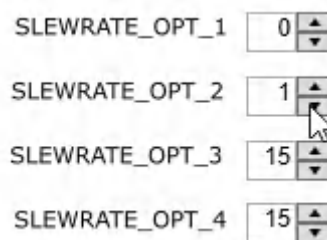

Figure 4-4. SLEWRATE_OPT# Assignment Example in TICS Pro
- a. For example, if you wanted the fastest, second fastest, and the slowest slew rate, assign 0x0, 0x1, and 0xF to registers SLEWRATE_OPT#. SLEWRATE_OPT1 = 0x0 (fastest), SLEWRATE_OPT2 = 0x1 (second fastest), and SLEWRATE_OPT3 = 0xF (slowest). SLEWRATE_OPT4 does not have to be assigned, but if you want more than one register set to a slew rate, then SLEWRATE_OPT4 can be assigned to any of the three previous settings. For this example, SLEWRATE_OPT4 = 0xF (slowest) as shown in Figure 4-4.